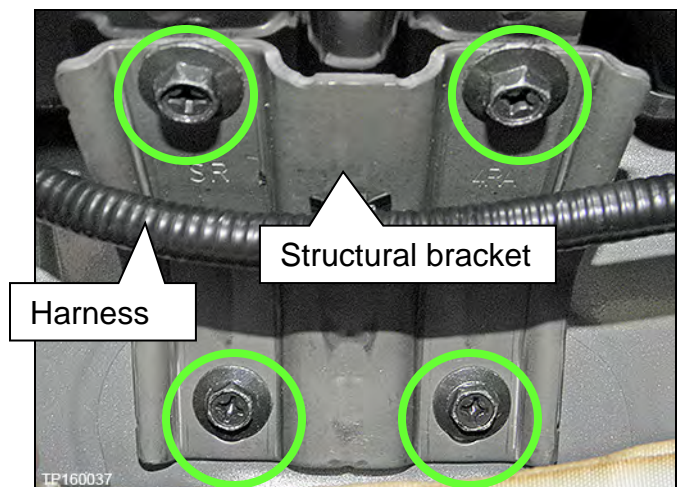

Figure 65
4. Remove the left and right structural brackets (Figure 65) attached to the center reinforcement support (4 bolts each; highlighted in Figure 65).
NOTE: It is not necessary to remove the harness from the driver side bracket (Figure 65).